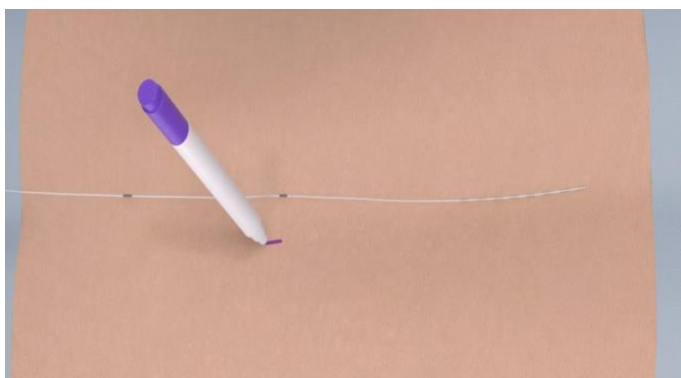

Figure 1
3. Place a mark at the first channel marker band (proximal to the electrodes) using a sterile marker, signifying the first incision site. (Figure 1)